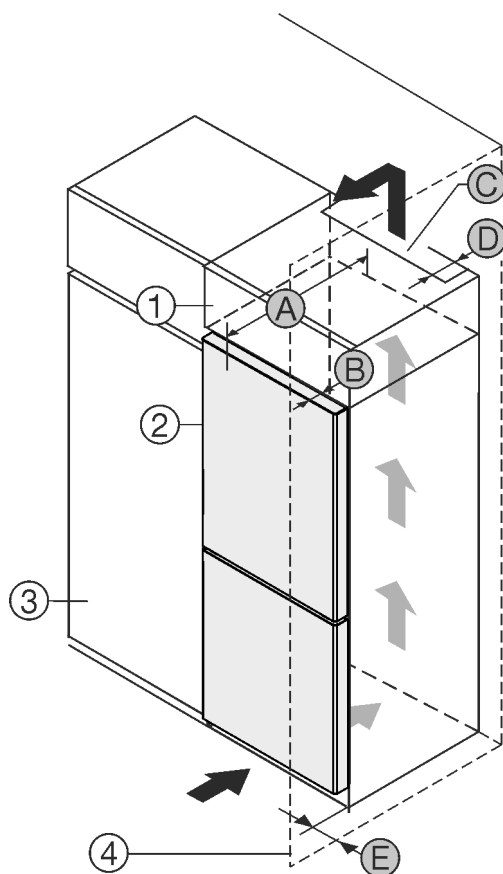

Fig. 1
Set up the appliance directly next to the kitchen cabinet Fig. 1 (3).\*
There must be a ventilation shaft at the depth Fig. 1 (D) of the back of the top cupboard over the entire width of the top cupboard.\*
The cross section of the ventilation gap Fig. 1 (C) must be maintained below the ceiling.\*
If the appliance is installed with the hinges next to a wall Fig. 1 (4), the distance between the appliance and the wall must be at least 13 mm (0.51 in).\*
If the appliance is installed with the hinges next to a wall Fig. 1 (4), the distance between the appliance and the wall must be at least 20 mm (0.79 in).\*
In order to be able to fully open the door, the appliance must protrude by the depth Fig. 1 (B) of the door from the front of the kitchen cabinet. Regardless of the depth of the kitchen cabinets Fig. 1 (3) and use of wall spaces, the appliance can protrude further.\*